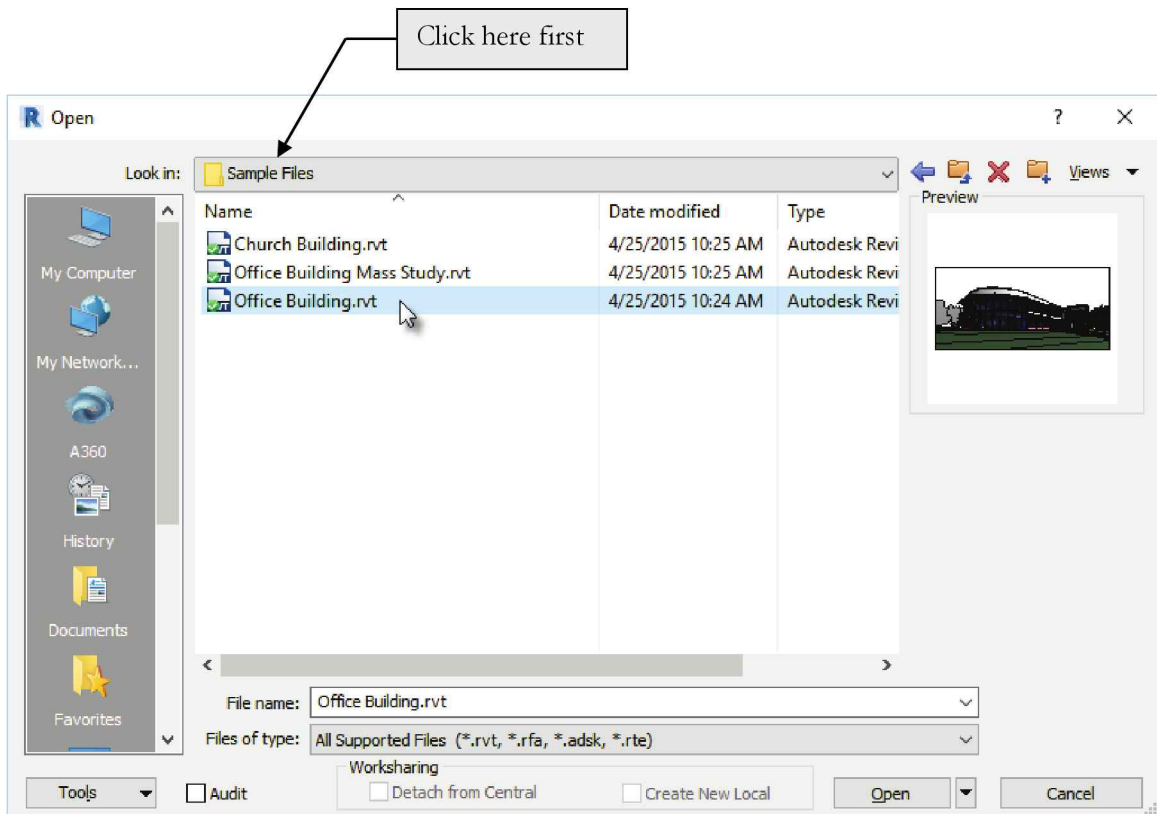

FIGURE 1-3.2 Open dialog; downloaded content from SDCpublications.com
2. Click the drop-down box at the top of the *Open* dialog (Figure 1-3.2). Browse to your downloaded files (provided files need to be downloaded from SDCpublications.com).